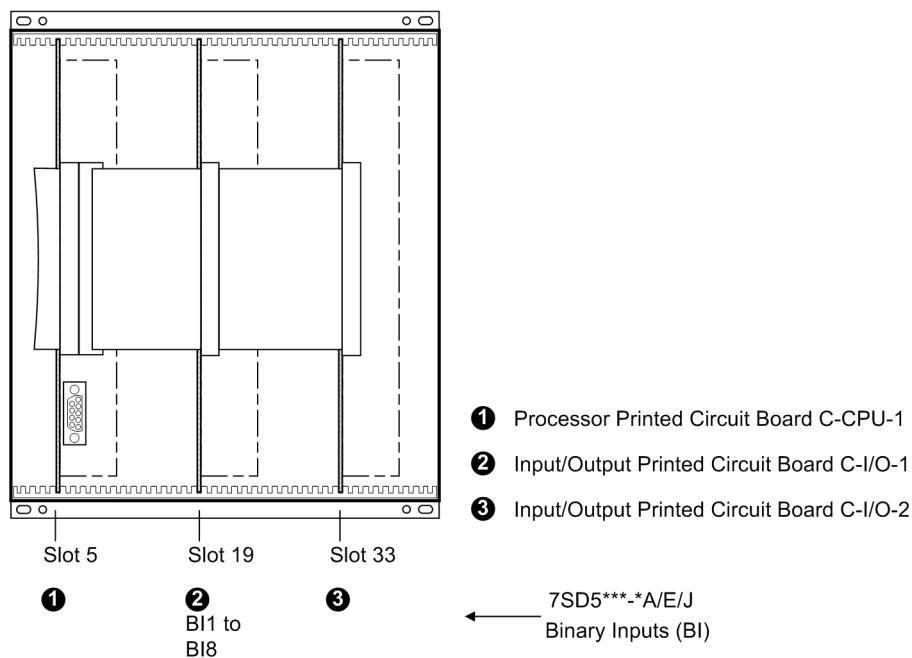
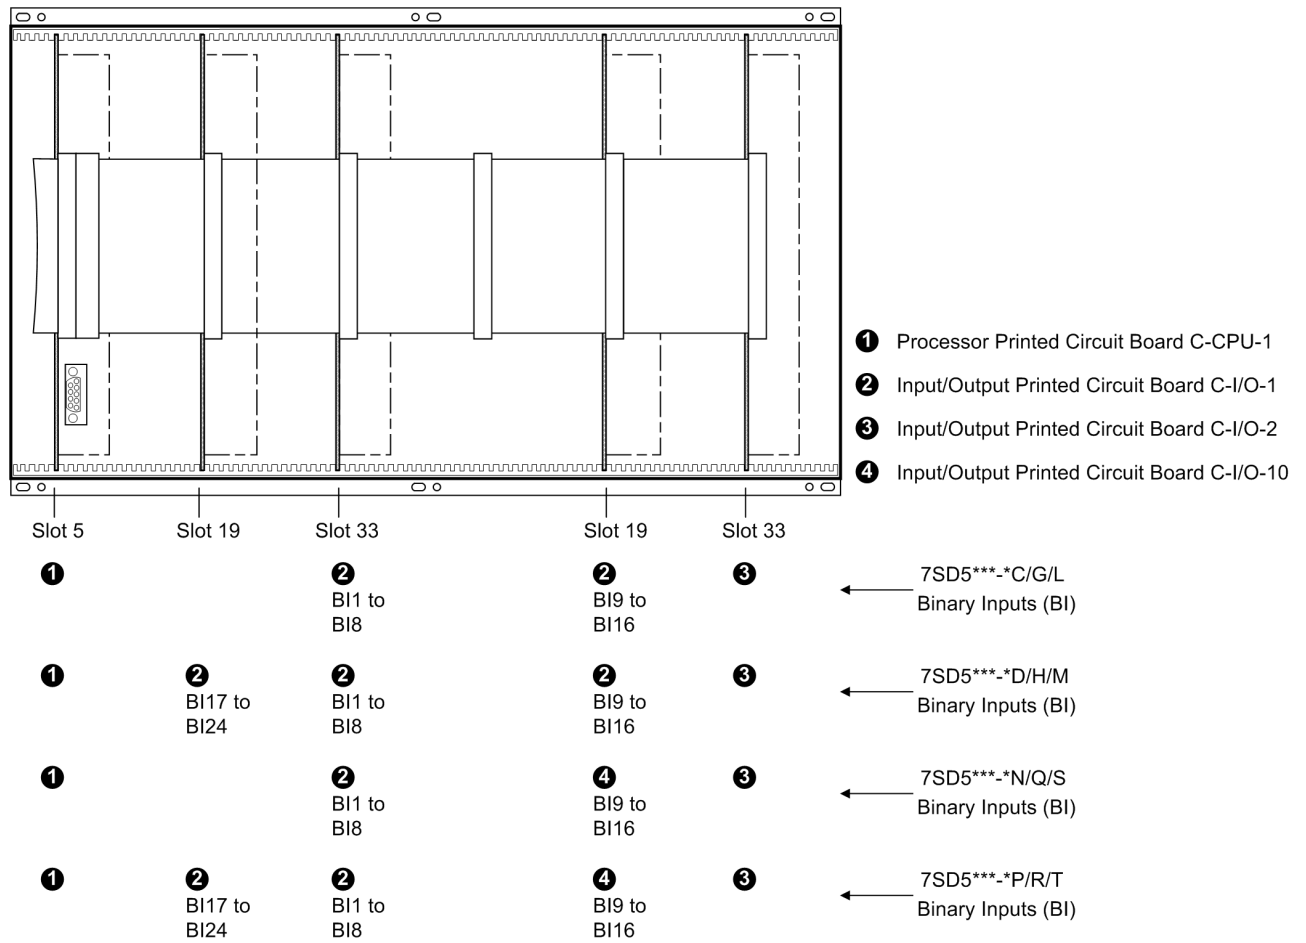

Figure 3-3 Front view with housing size $1/2$ after removal of the front cover (simplified and scaled down)
Figure 3-4 Front view with housing size $\frac{1}{4}$ after removal of the front cover (simplified and scaled down)
The allocation of the boards for housing size $1/2$ is shown in Figure 3-3 and for housing size $1/1$ in Figure 3-4.
- Disconnect the plug connector of the ribbon cable between processor board C-CPU-1 (No. 1 in Figure 3-3 or 3-4) and the I/O input/output modules (depending on order variant No. 2 to No. 3 in Figure 3-3 or No. 2 to 4 in Figure 3-4).
- On the input/output board C-I/O-1 (No. 2 in Figure 3-3, slot 19) for housing size $\frac{1}{2}$,
- On the input/output board C-I/O-1 (No. 2 in Figure 3-4, slot 33 left) for housing size $\frac{1}{1}$,
- In versions 7SD5***-**D/H/M** (housing size $\frac{1}{1}$ with 32 binary outputs) this is valid for the binary outputs BO16 and BO24 (Figure 3-4, slot 19 left and right);
- In versions 7SD5***-**C/G/L** (housing size $\frac{1}{1}$ with 24 binary outputs) this is valid for the binary output BO16 (Figure 3-4, slot 19 right);
- In versions 7SD5***-**P/R/T** (housing size $\frac{1}{1}$ with 32 binary outputs and command acceleration) this is valid for the binary output BO24 (Figure 3-4, slot 19 left).